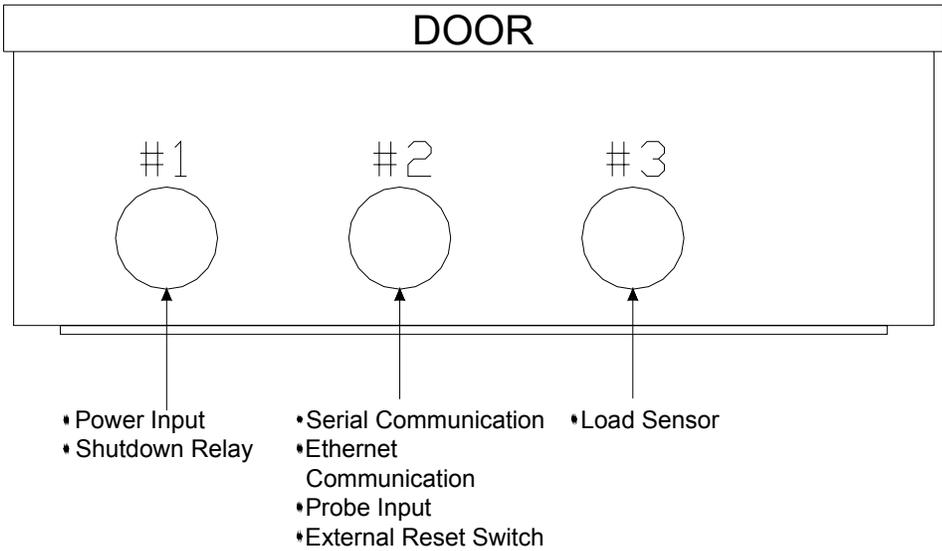
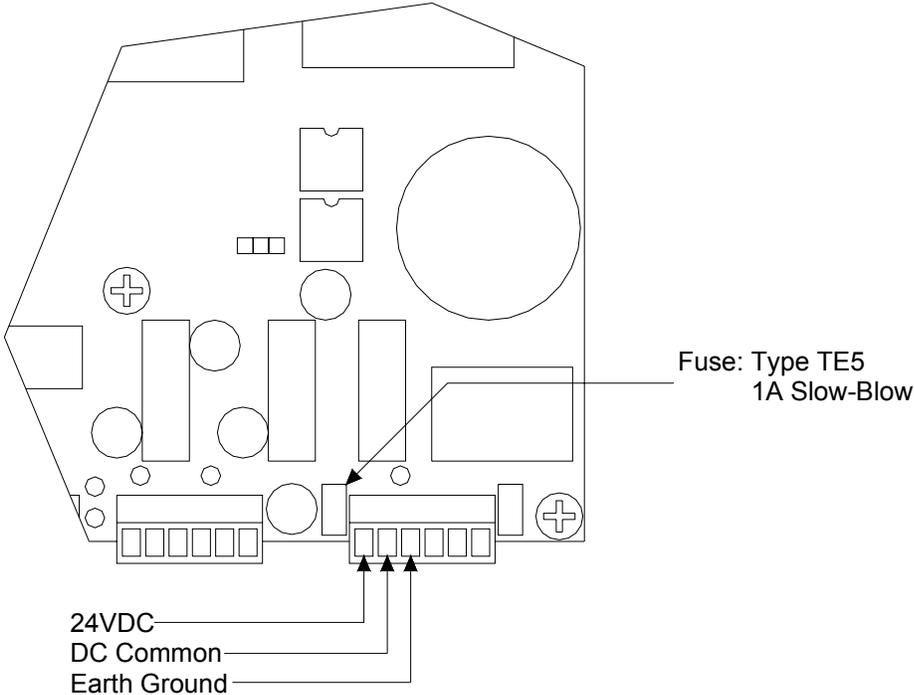

Figure 1.5: Conduit Hole Selection
Figure 1.6: DC Power Connection
Follow Figure 1.5 to select the proper conduit hole for cabling. The holes are for 1/2" conduit, but they can be enlarged in the field if a larger fitting is required.
DC power is connected to the N600's Control Board as shown in Figure 1.6. Use Conduit Hole #1 (see Figure 1.5) for the DC Power Wiring. Use the proper fuse as indicated.
- 2) Run Load Sensor cables through Conduit Hole #3 (see Figure 1.5), and route cables upward to the Control Board.
The probe supply voltage (+12VDC) is supplied by the N600 on the Vo terminal. The figure below shows the probe input location on the Control Board and illustrates different wiring possibilities. Use Conduit Hole #2 (see Figure 1.5) to run the probe wiring. After wiring is completed, you must configure the unit for Probe triggering (see Page 34).
Two terminals are provided for connecting an external reset switch. The rating of the switch and wiring can be minimal because they interface with a small signal. Use Conduit Hole #2 (see Figure 1.5) to run the wiring for the reset switch.
Use Conduit Hole #1 (see Figure 1.5) for the Shutdown Relay Wiring.